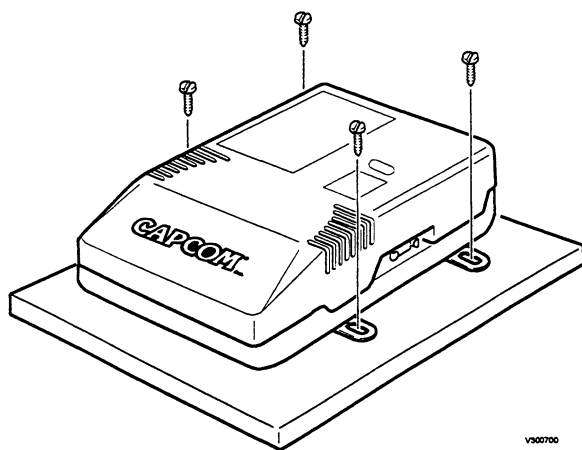

Figure 11: Case Mounting
21. Using the wood screws (Not Supplied), fasten the game cartridge case to the control panel shelf, as shown in Figure 11.